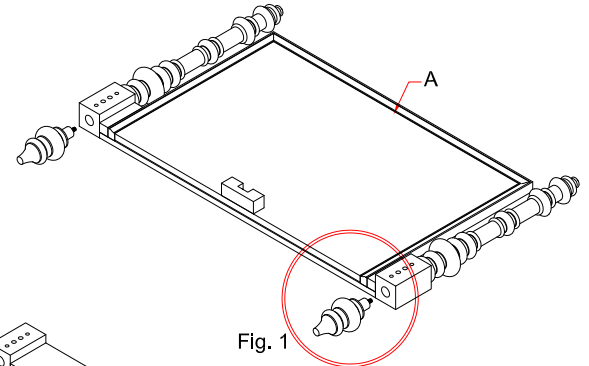

FIGURE 1
- Gently lay the headboard (A) and footboard (C) on a flat and non-abrasive surface.
- Attach the legs (G) to bottom of the headboard (A) and footboard (C). Refer to FIGURE 1.